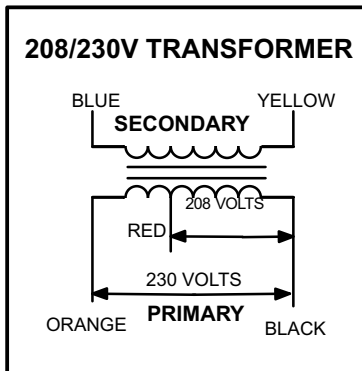

FIGURE 3
primary voltage taps as shown in figure 3, while 460 (G) and 575 (J) voltage transformers use a single primary voltage tap.